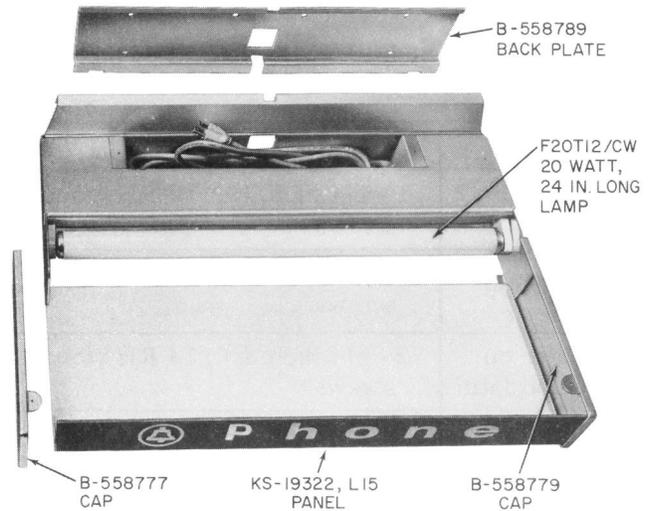
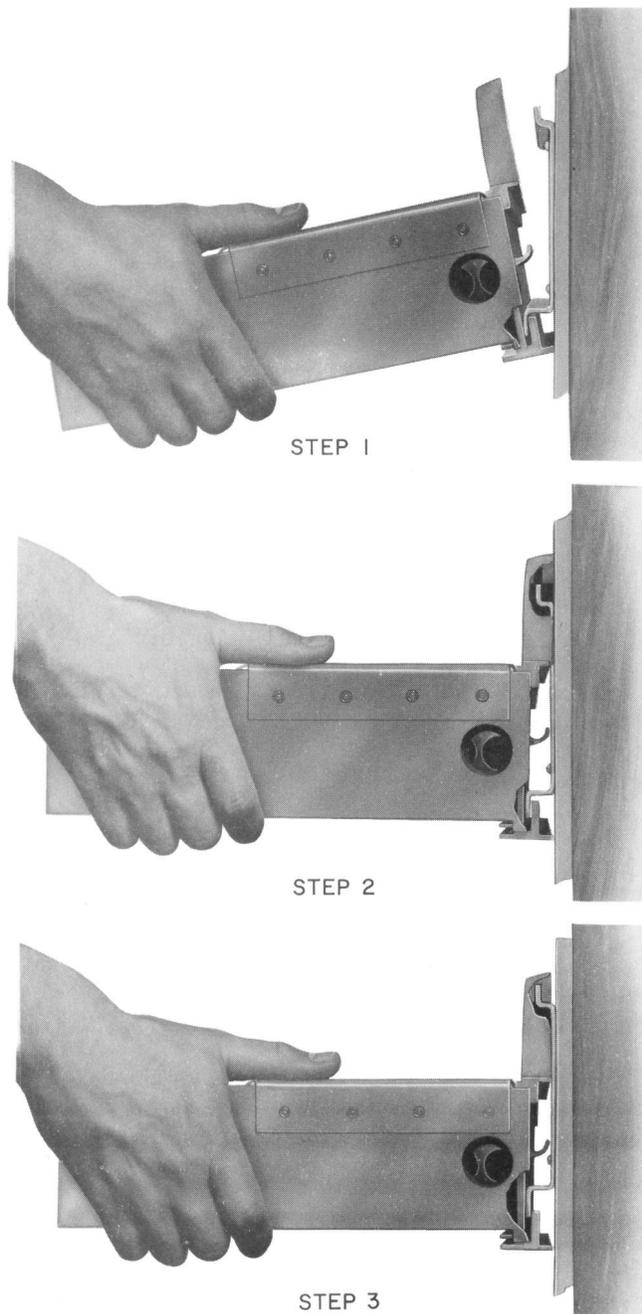
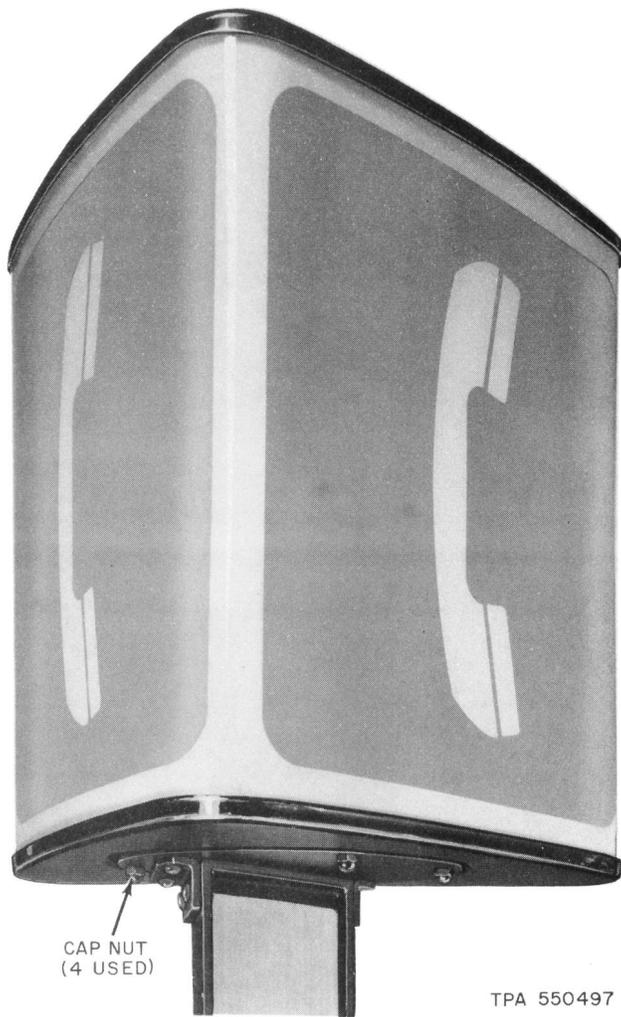

Fig. 20—Assembly of KS-19322 Sign
Fig. 21—Installation of KS-19322 Sign
Fig. 25—Mounting Hardware for KS-20031, List 1 Sign Mounted on KS-19426, List 39, 40, or 41 (A&M Only) Mast
3.09 These signs are intended for use indoors over a coin telephone shelf, directory racks, and tables (Fig. 20).
(a) Remove the power cord through the hole in the rear wall of the cord storage compartment (Fig. 20).
(c) Engage lower slot of sign with lower flange of backplate (Fig. 21, Step 1).
(d) Raise sign assembly as far as possible and tilt top of sign toward wall (Fig. 21, Step 2).
(e) Allow sign to slide down, engaging upper slot and flange (Fig. 21, Step 3).
- (b) Place end caps on sign panel (Fig. 20).
Note: The List 2 lens assembly (Fig. 20) must be removed from the fixture assembly (Fig. 21) before installation.
- (1) Remove four cap nuts which secure lens to base.
- (2) Remove four 1/4-20 by 5/8-inch Phillips RHM screws from top edge of mast.
- (3) Install fixture assembly to mast using the four 1/4-20 by 5/8-inch screws (Fig. 21).
- (4) Have local electrician connect the fixture to junction box below KS-19426 housing with No. 12 AWG wire. Connections should conform to connections of the housing fluorescent lamp, ie; if housing lamp is controlled by a light control unit, the sign lamp should be controlled by the same unit.
- (5) Install lamp in fixture.
- (6) Install List 2 lens assembly over fixture and secure with the four cap nuts removed in (1) (Fig. 25).